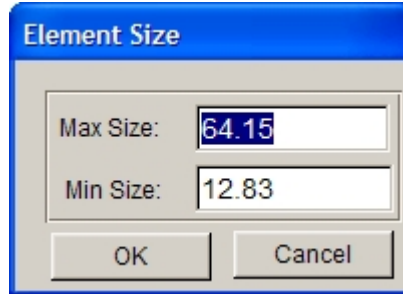

Figure 6.2.10 Element Size dialog box
2. Translate the binder by dragging the SLIDER bar as illustrated in Figure 6.2.10. If the bar is slid to the right, the binder will be translated in the positive direction along the selected axis and vice versa. Click on the APPLY button to accept the new binder position.
This function is used to generate the binder mesh using the binder surface. A dialog box as illustrated in Figure 6.2.10 is displayed.